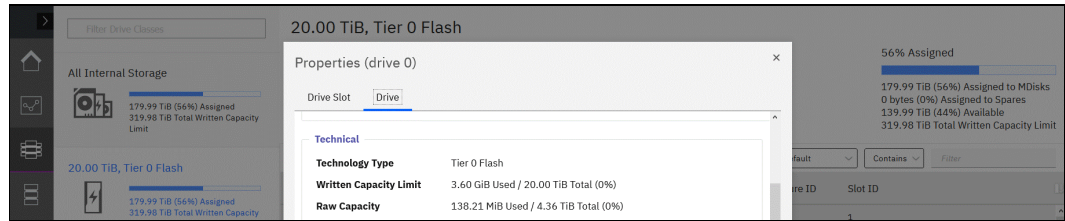

Figure 3-1 FCM capacity monitoring with GUI
- ▶ The IBM FlashSystem GUI (as shown in Figure 3-1 on page 70) and CLI (as shown in Example 3-2 on page 70) allows you to monitor effective and physical capacity for each FCM.